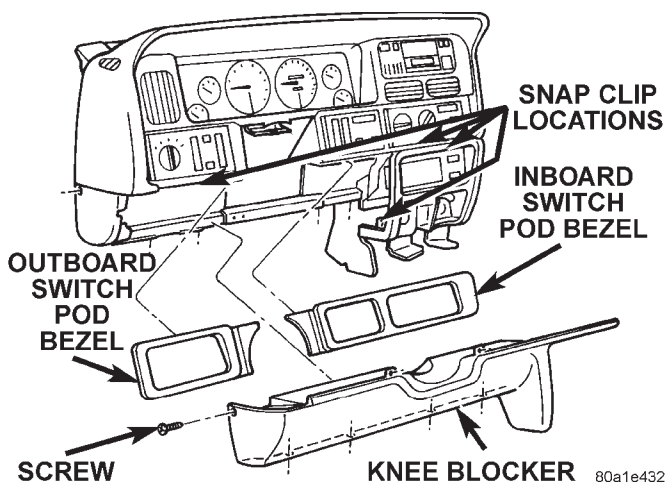

Fig. 5 Steering Column Opening Cover/Knee Blocker Remove/Install
(1) Disconnect and isolate the battery negative cable.
(2) Remove both switch pod bezels. See Switch Pod Bezel in this group for the procedures.
(3) Remove the one screw on each side of the steering column that secures the upper edge of the steering column opening cover/knee blocker to the instrument panel (Fig. 5).
(4) Remove the one screw that secures the steering column opening cover/knee blocker to the outboard end of instrument panel.
(5) Remove the four screws that secure the lower edge of the steering column opening cover/knee blocker to the lower instrument panel reinforcement.
(6) Using a trim stick or another suitable wide flat-bladed tool, gently pry the edges of the steering column opening cover/knee blocker away from the instrument panel at the snap clip retainer locations (Fig. 5).
(7) Remove the steering column opening cover/knee blocker from the instrument panel.